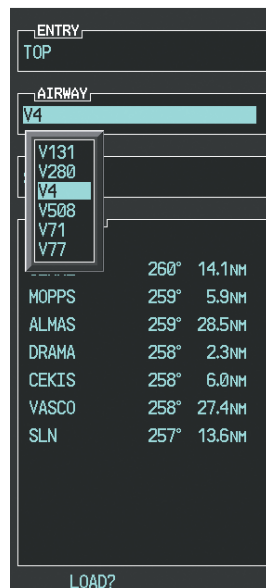

Figure 5-110 List of Available Airways for TOP
f) Press the **LD AIRWY** Softkey to display the list of available airways for TOP as seen in Figure 5-110.
g) Turn either **FMS** Knob to highlight V4 in the list as seen in Figure 5-110.